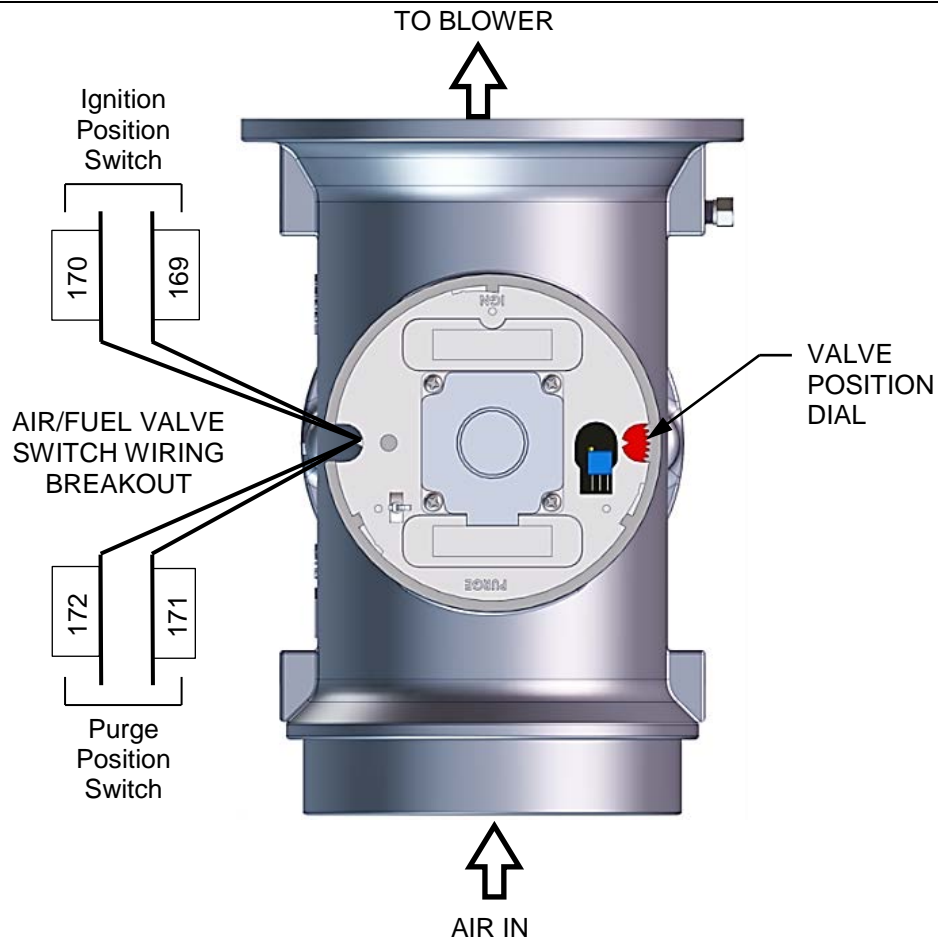

Figure 6-9: Air/Fuel Valve Purge and Ignition Switch Locations
4. Remove one of the two wires (#171 or #172) from the Purge switch (Figure 6-9).
4. Remove one of the two wires (#169 or #170) from the Ignition switch (see Figure 6-9).